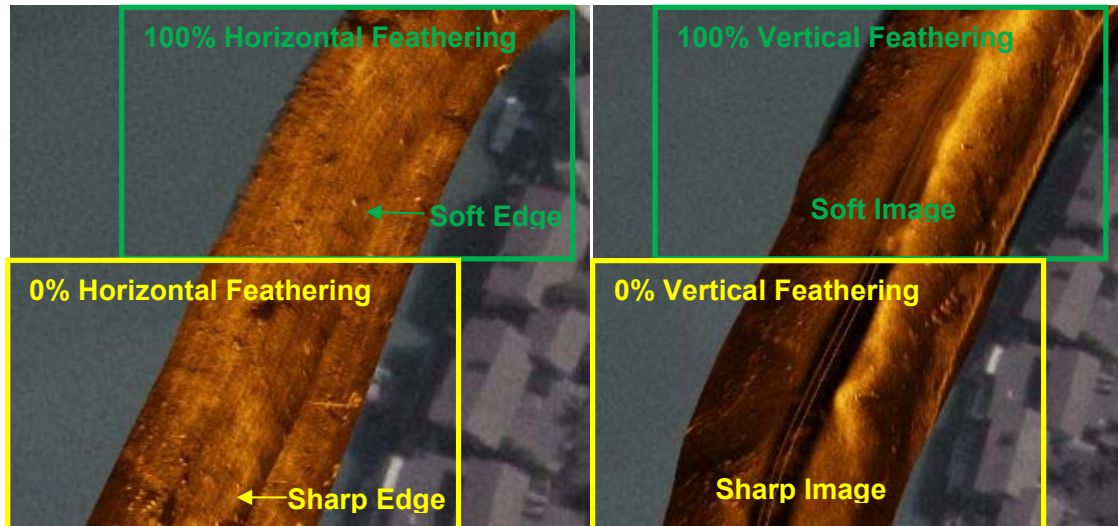

Figure 80. Feathering Effect
- Adjusting the horizontal feathering varies the sharpness of port and starboard boundaries at overlapping swaths, while adjusting the vertical feathering affects the clarity of the entire image (Figure 80).